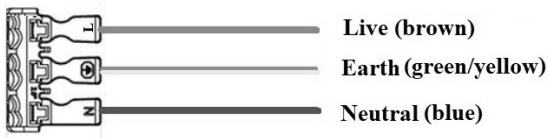

Fig. 2
- Connect the luminaire to the mains supply ensuring that correct polarity is observed (see Fig. 2): L - Live (brown), E - Earth (green/yellow), N - Neutral (blue). The earth terminal is non-functional and only provided for convenience. Two cables can be inserted into the push-fit terminal block in order to achieve loop-in / loop-out wiring